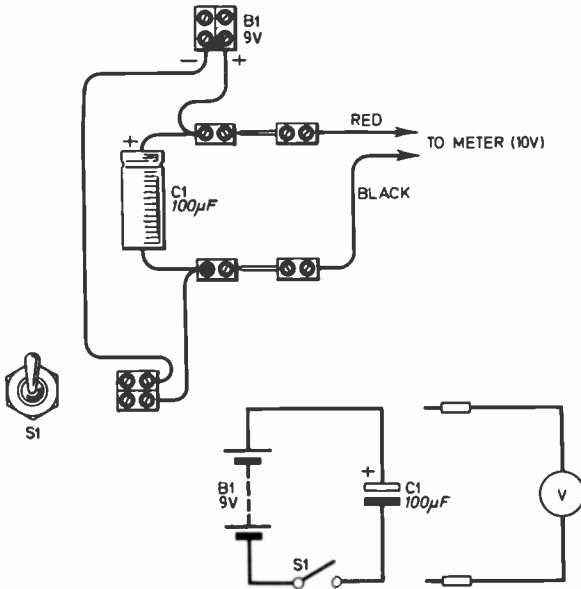

Fig. 4A.1. The layout of the components on the Circuit Deck for experiment 4A together with the circuit diagram.
1. Assemble the 100 microfarad capacitor on the Circuit Deck and wire up to the switch and 9 volt battery terminals as shown in Fig. 4A.1. Using the meter on the 10 volt range, fix the meter probes to the terminals as shown. Make sure that the capacitor polarity is correct and check out your wiring up.